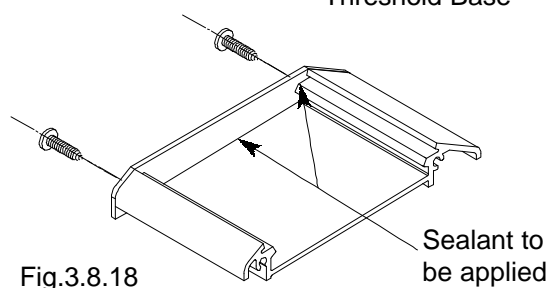

Fig.3.8.18
- Finish off by applying sealant around inside edge of base to end cap.(Fig.3.8.18)